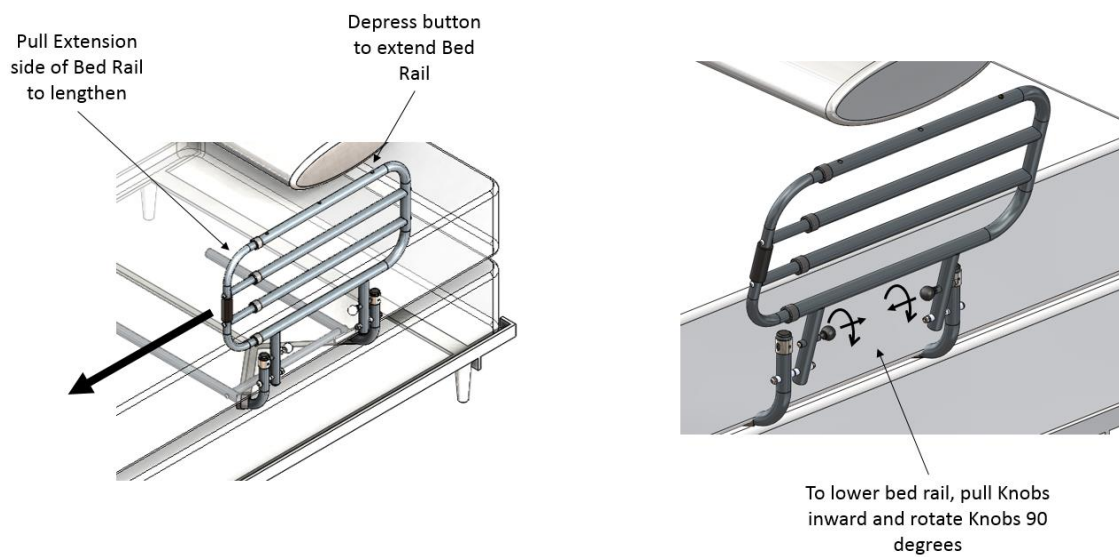

FIGURE 8
8. Depress button to extend bed rail. Pull Knobs inward and rotate Knobs 90 degrees to lower bed rail, as show in Figure 8.